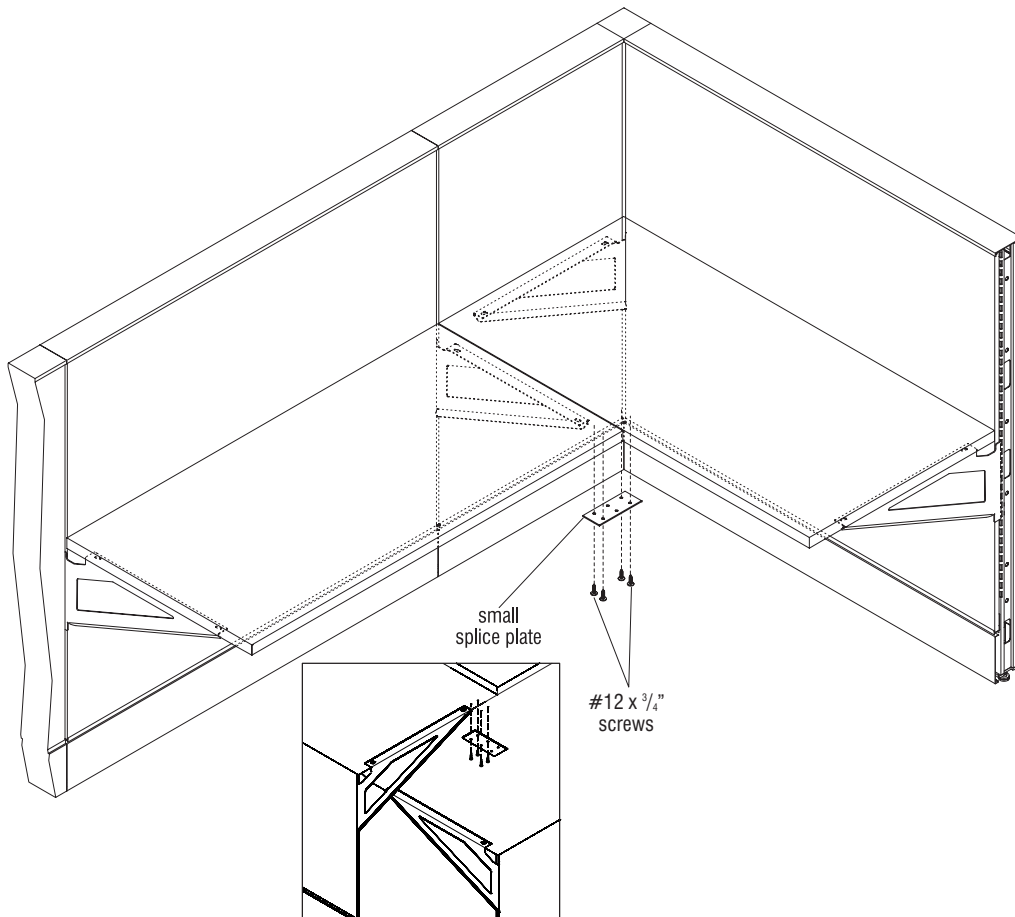

Figure 4 - Perpendicular 24-30" Deep Worksurface Connections with 74P Edge
Note: When 24" & 30" deep 74P edge worksurfaces are installed perpendicular to each other, a worksurface splice plate must be installed between the adjacent worksurface pairs as illustrated to keep worksurface tops aligned. The splice plate, when properly installed will span over the beveled gap (Figure 4).
3. To keep worksurfaces level, install a small splice plate between adjacent worksurfaces as illustrated. Use the splice plate mounting holes as a template and drill 1/8" diameter holes to not more than 1/2" deep to avoid damaging surface. Install small splice plate to underside of worksurfaces using four #12 x 3/4" screws. Take care to not over-tighten screws (Figure 4).
Note: When a 22" deep Knife Edge worksurface is installed perpendicular to another, a 22" splice plate must be installed between the adjacent worksurface pairs to keep worksurface tops aligned. There is no room to install a small splice plate as the knife edge is 2" deep. The 22" splice plate, when properly installed will span over the beveled gap (Figure 4).